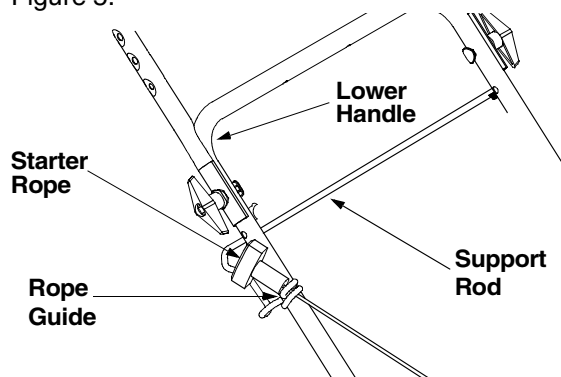

Figure 5
- The rope guide, connected to the support rod, is located on the right side of the lower handle. See Figure 5.